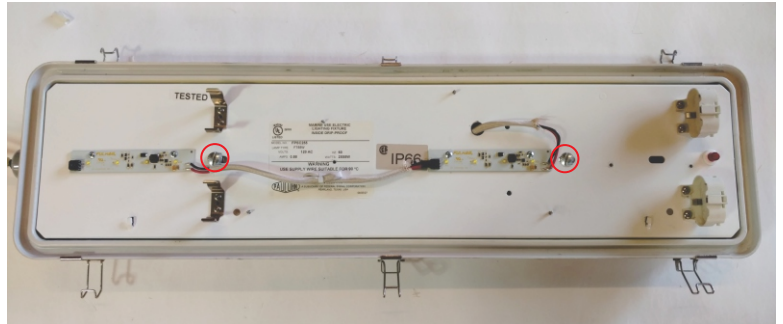

Figure 9
13. Place the luminaire mounting plate onto the Luminaire and secure it by fastening the two screws. See figure 9.